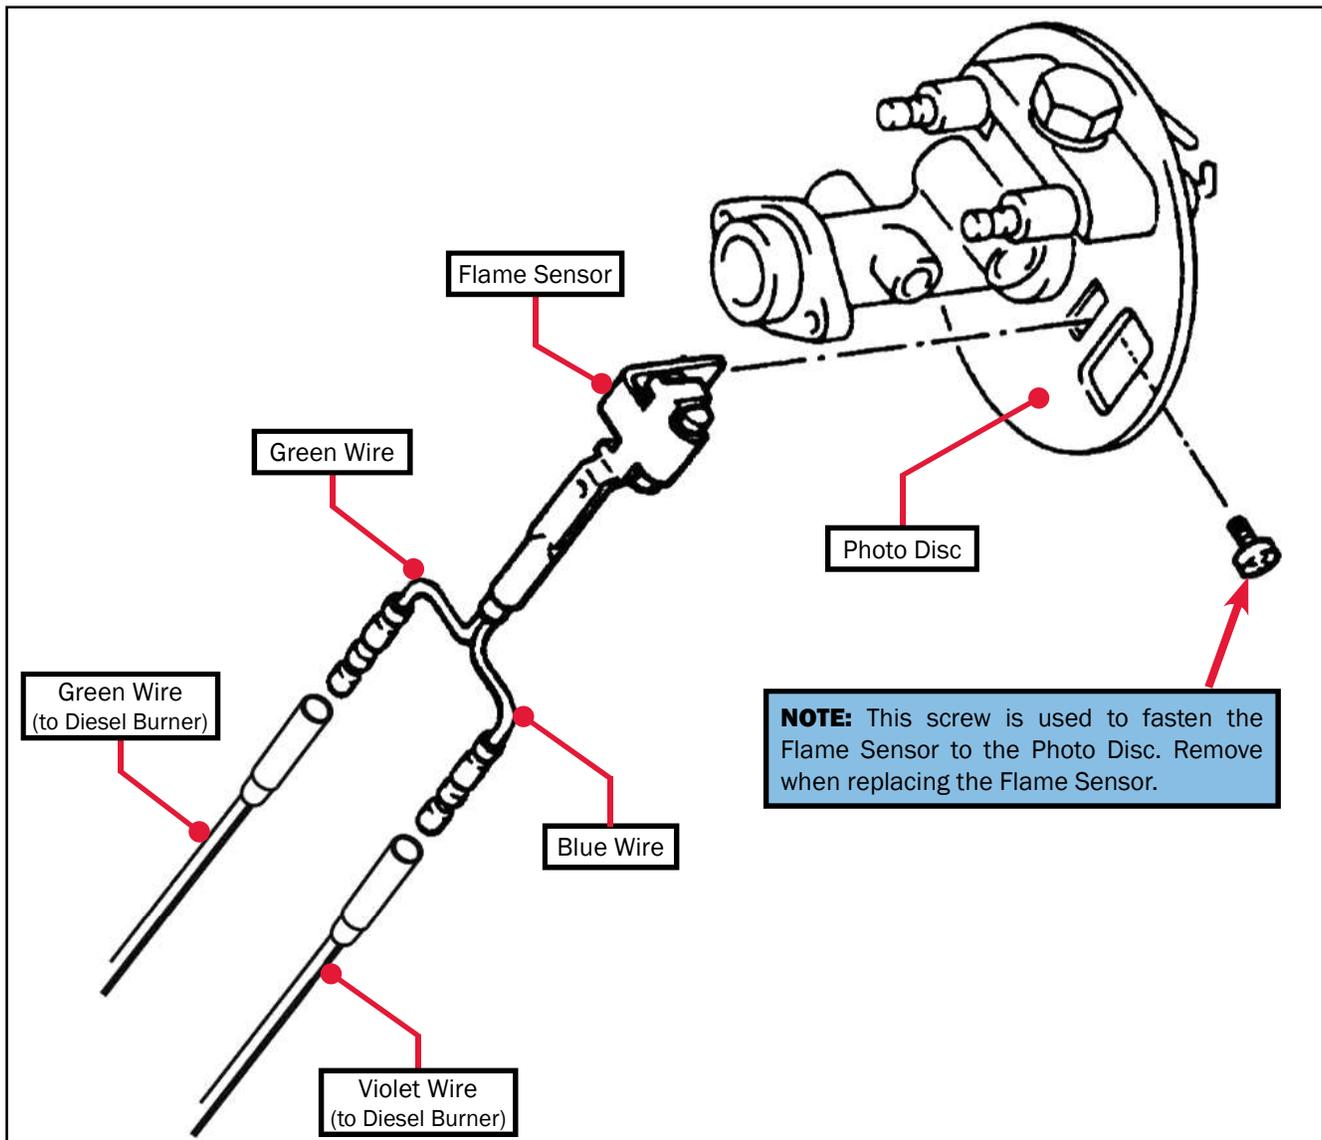

Figure 100
2. Remove the screw that fastens the flame sensor to the photo disc (as shown in Figure 100), and detach the flame sensor's green and blue wires from the C-plug harness' green and violet wires. Remove the defective flame sensor.